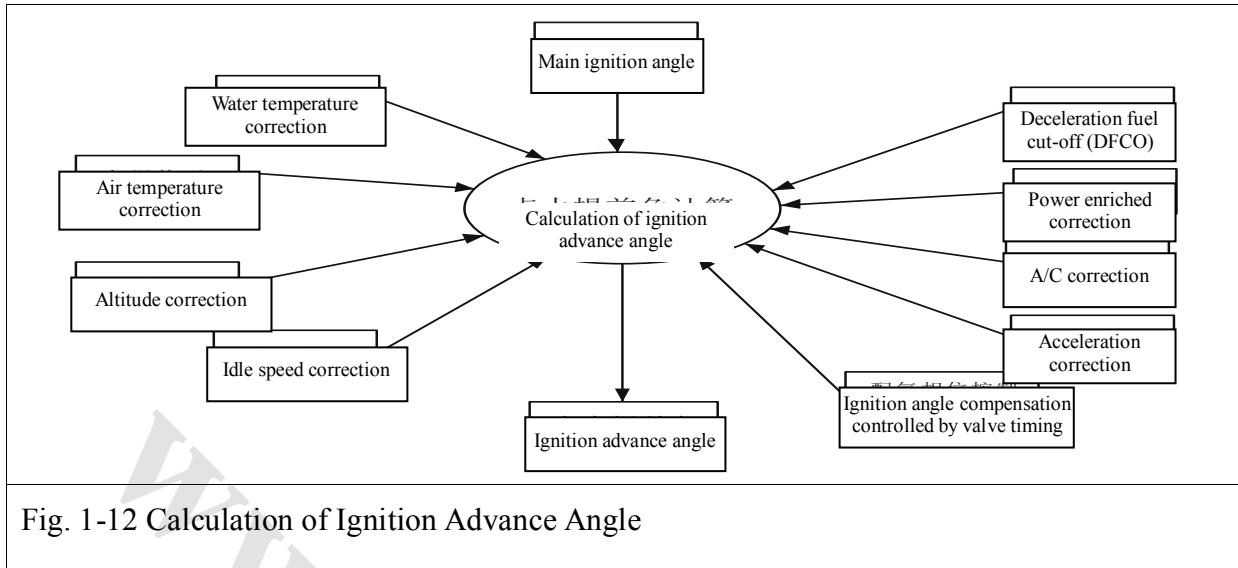

Fig. 1-12 Calculation of Ignition Advance Angle
3. Calculation of ignition advance angle, see Fig. 1-12